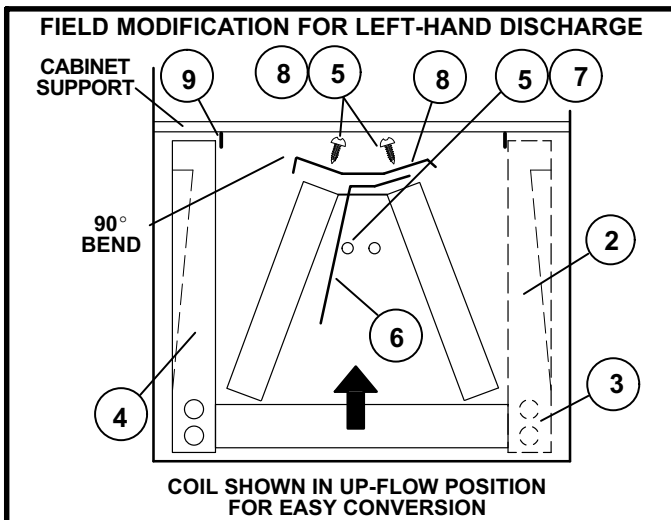

FIGURE 17
- 5- Remove screws from top cap. Remove horizontal drip shield screw located in the center of the back coil end seal. See figure 17.
- 8- Rotate top cap 180° front to back and align with unused screw holes. Holes must align with front and back coil end plates. Note that top cap has a 45° bend on one side and 90° bend on the other. **The 90° bend must be on the same side as the horizontal drain pan.** See figures 17 and 18.
- 9- From the upflow position, replace coil assembly. Then flip cabinet 90° to the left and set into place. Replace coil assembly. Secure coil in place by bending down tab on cabinet support rail. See figures 17 and 19.